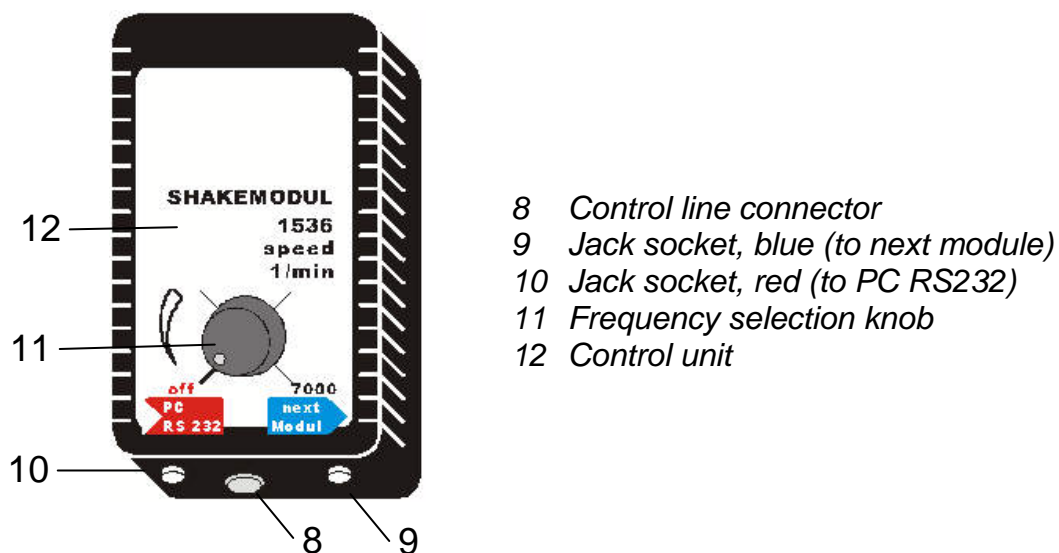

*Figure 4: Mounting the magnetic shaker using the mounting holes*
For safe operation, the magnetic shaker must be mounted in a fixed position in a precisely specified location (Figure 4). To do so, use the mounting holes (6) of the drive block (5). On page 35, you will find a diagram specifying the exact dimensions of the installation bores. The diagram is valid for all three device variants.
- ◆ Mount the magnetic shaker on the mounting surface (see Figure 4 and diagram on page 35).